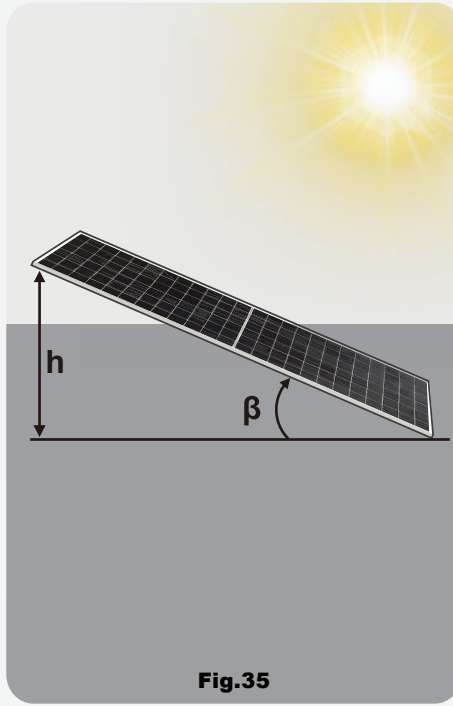

Fig.35
**(Fig.35)** The tilt angle of the PV module is measured between the surface of the PV module and a horizontal ground surface. The PV module will generate maximum power output when facing the sun directly. In grid-connected systems where the modules are attached to a fixed structure, the tilt angle should be selected to maximize energy production on an annual basis. In stand-alone systems with batteries, however, the tilt angle of the modules should be selected to optimize the performance based on seasonal load and sunlight. In general, this means that if the system's output power is adequate when irradiance is low (e.g., winter), then the chosen angle should be adequate throughout the year. Modules connected in the same string should be installed with the same orientation and tilt angle. Different orientations and tilt angles may result in different received solar irradiation and output power loss.